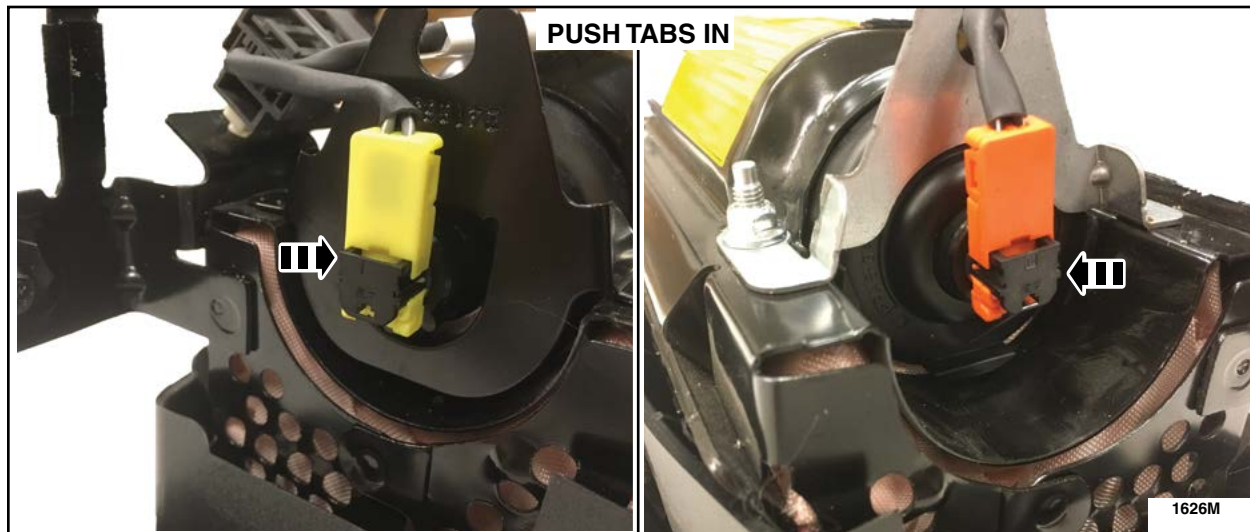

FIGURE 17
12. Insert the inflator wiring harness connector tabs. See Figure 17.